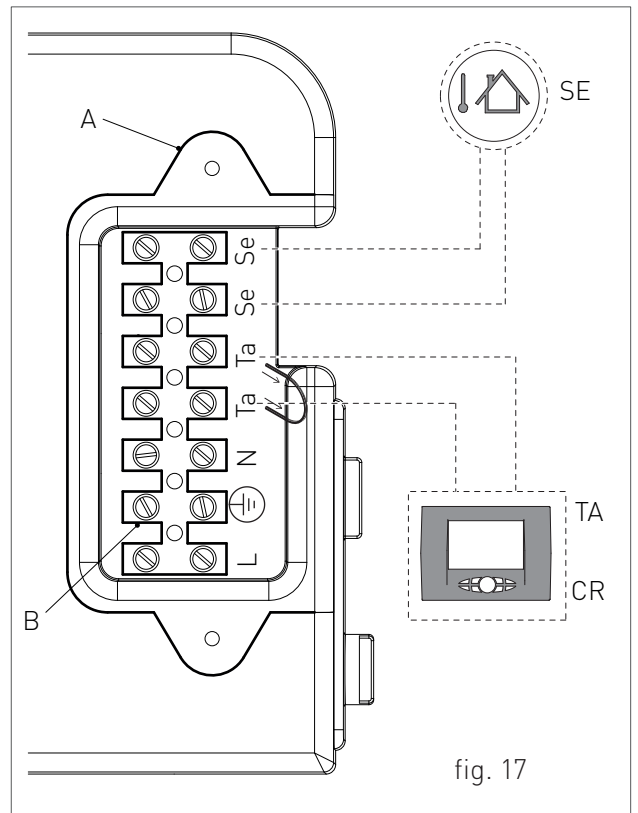

fig. 17
- › Remove the front casing of the boiler (see 2.2.13 ACCESSING THE BOILER); unscrew the screws and remove plate "A" (see fig. 17).
- › After removing the plate, connect the electrical cables to terminal "B" (see fig. 17):